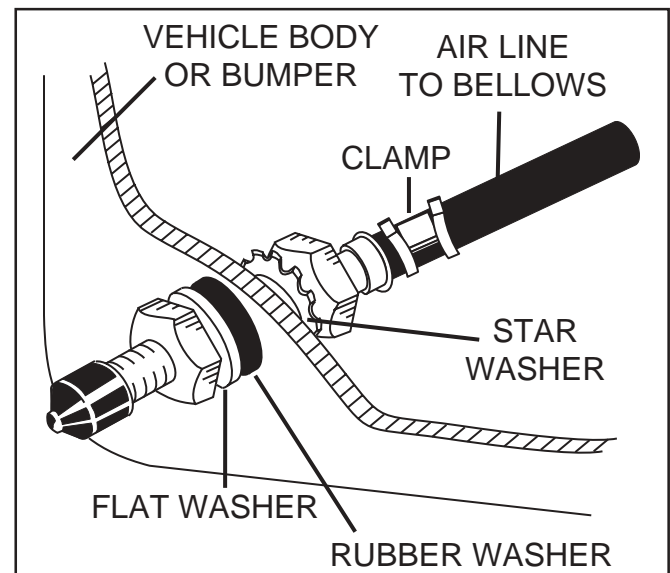

Figure 8
12. Drill a 5/16" hole for inflation valve and mount as illustrated in Figure 8. The rubber washer is for outside weather seal.
8. Drill 5/16" hole for inflating valves and mount as illustrated. The rubber washer is for outside weather seal (Figure 8).